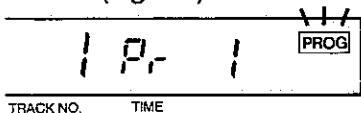

Fig. 13a
2. Press the MEMORY switch. The PROG indicator will blink. (Fig. 13a)